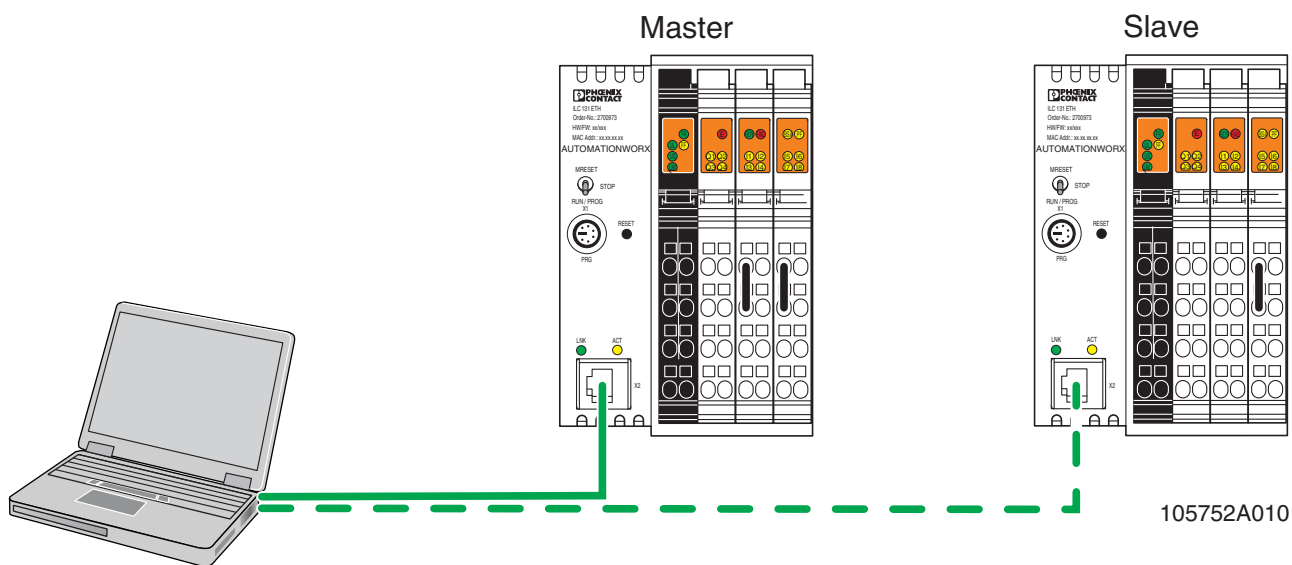

Figure 3-14 Connecting the Inline controllers to a PC
- First connect the Inline controller that has been configured as master to a PC using an Ethernet cable (see Figure 3-14).